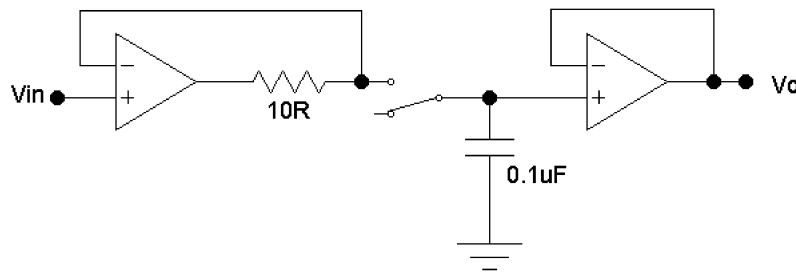

Figure 1.3: Sample and hold circuit
It is sometimes necessary to temporarily store a voltage. This is required when converting a voltage to a digital value, or to implement an analog signal delay. Figure 1.3 shows the schematic of a typical *track-and-hold* circuit. When the switch is closed,  $V_{\text{out}}$  tracks  $V_{\text{in}}$ . With the switch open, the capacitor is effectively isolated from  $V_{\text{in}}$  and  $V_{\text{out}}$  reflects the voltage stored in the capacitor.
- ❗ Sketch the circuit of Figure 1.3 in your lab book, clearly labelling all the connections to the LM358 dual op-amp chip.